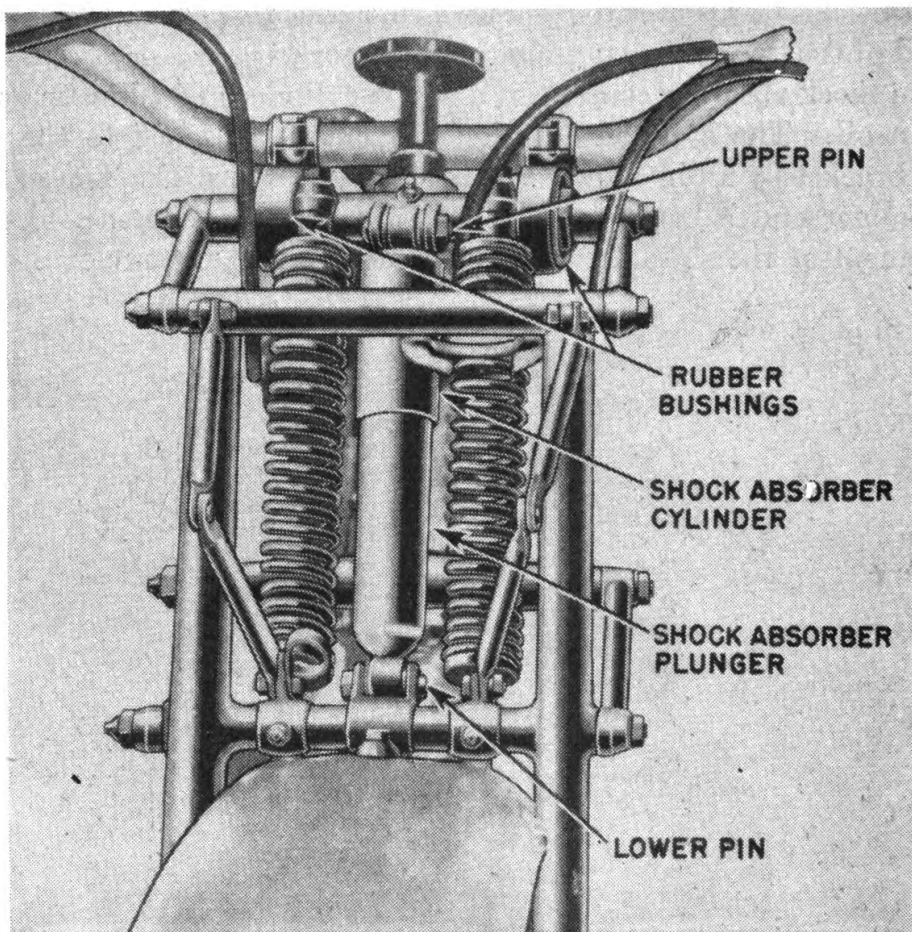

FIGURE 39.—Front suspension of Indian shaft-driven motorcycle.
The shock absorber consists of a single cylinder and plunger operating in oil. The cylinder (stationary) end is attached to the fork-stem bracket by a pin connection as shown in figure 39. The movable or plunger end is connected to the lower fork link. Removal or replacement of the shock absorber does not require the removal of the
b. Figure 39 shows that the handle bars of the Indian are secured to the front fork by rubber bushings mounted on the front-stem bracket. The rubber bushings, which are held in place by steel washers, absorb small vibrations so that a minimum of road shock is transmitted to the rider's arms.